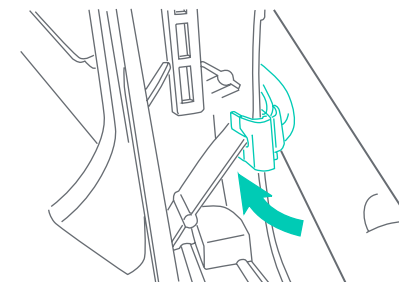

Fig. 22c
- Ensure that the slot of the anchor hook slides through the under side division (Fig. 22c).